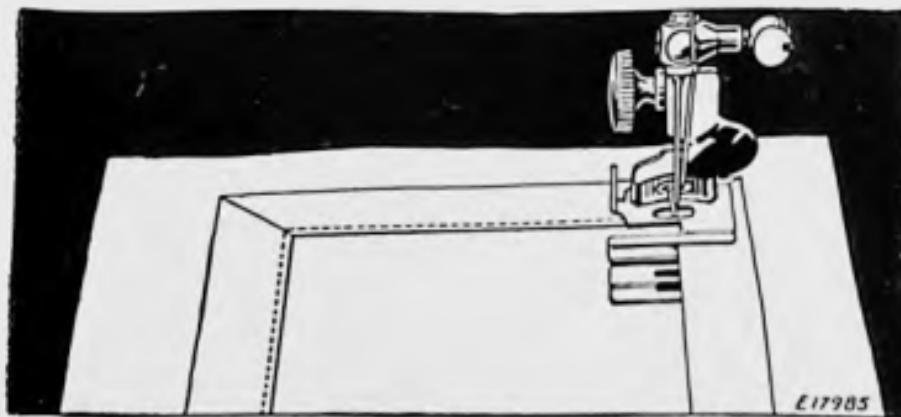

FIG. 55. APPLYING BIAS FOLDED TAPE
(2) To make square corners, sew to the turning point, remove the tape from the attachment, form the corner by hand, replace the tape and continue stitching. See Fig. 55.
(3) To space two or more parallel rows, mark the material with a guide line, using a crease, chalk or basting thread.